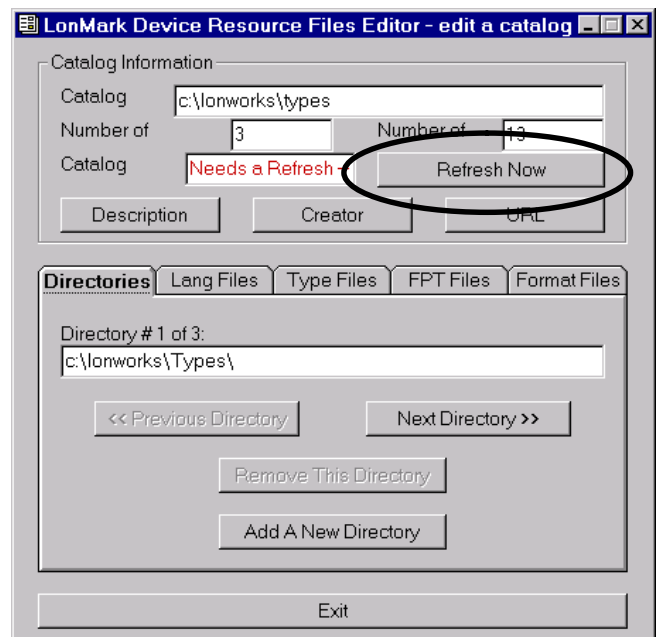

FIGURE G-5. “REFRESH NOW” BUTTON
- f. Select “Refresh Now” (see Figure G-5).